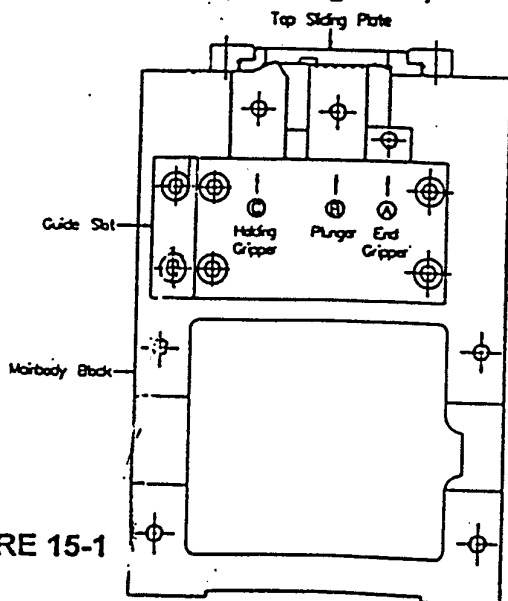

FIGURE 15-1
The gap between tension lever will be adjusted at proper position before selling. If the operator wish to adjust the width of P.P. strap, please adjust the lock nut (1) and lock nut (2) (Refer to fig. 15-2) and make sure the tension lever is on accurate gap. Please use hand to let the (A) (B) (C) touching the top sliding plate (Refer to fig. 15-1) and the distance of (E) (F) & (D) does not allowed to have any gap (Refer to fig. 15-2)